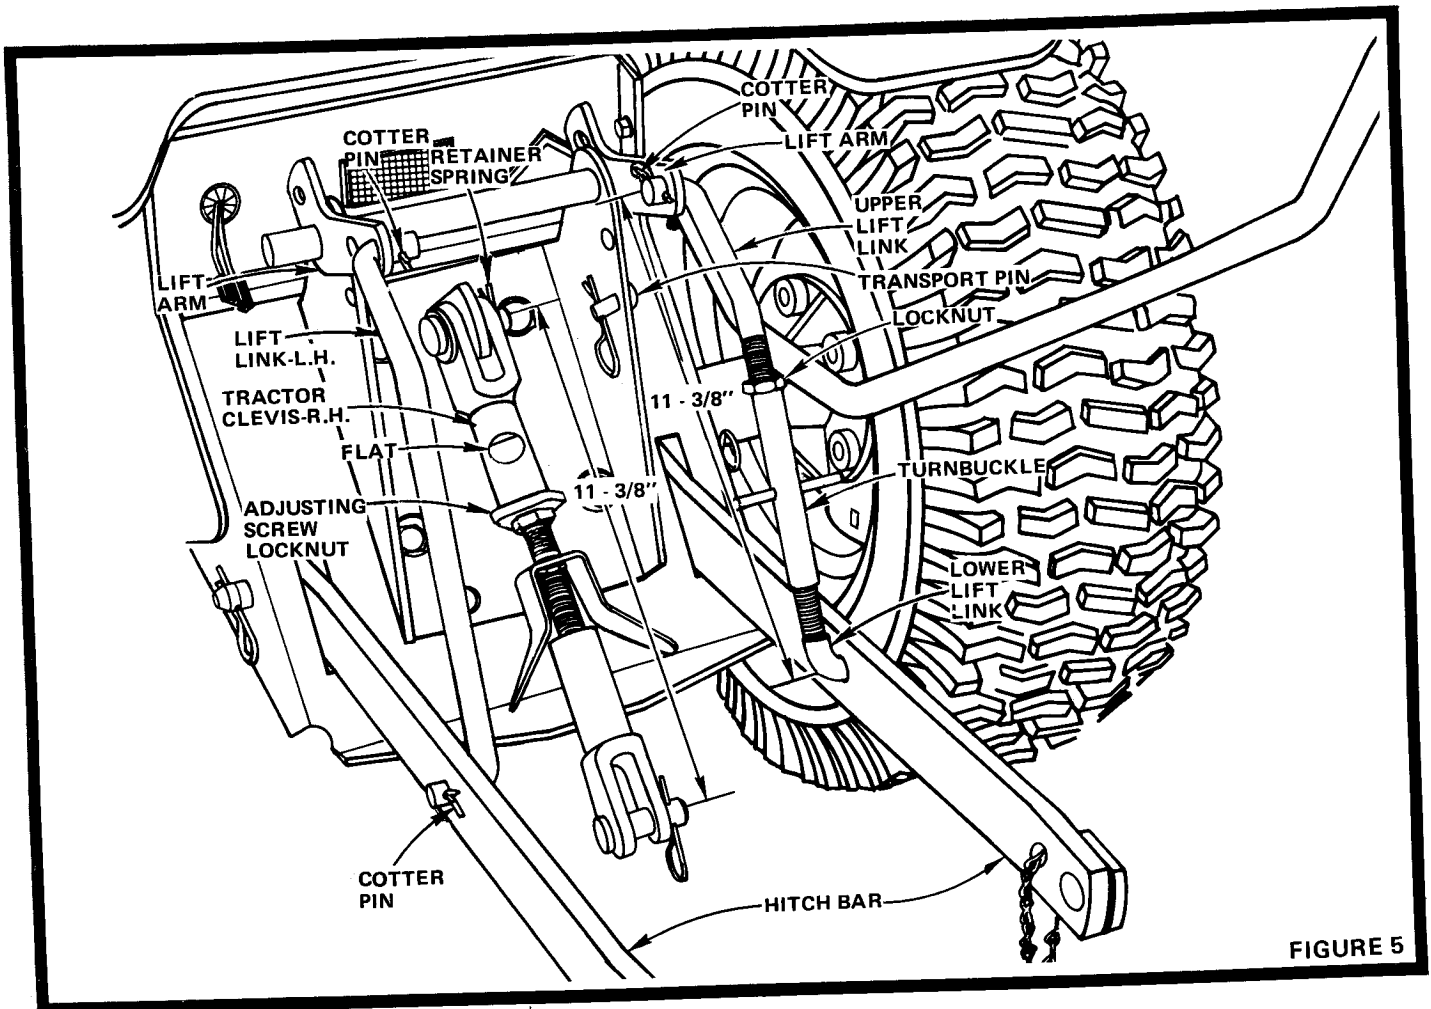

FIGURE 5
- a. Assemble Lift Link-L.H. to Lift Arm. Position with bend up and Link in outer hole of Lift Arm as shown in Fig. 5. Secure with Cotter Pin.
- a. The Right Hand Lift Link Assembly was adjusted at the factory to 11 - 3/8 inches center to center of Lift Link ends (Fig. 5). Check this dimension and adjust if necessary by loosening Locknut and adjusting Turnbuckle equally on Upper and Lower Lift Links. Tighten Locknut against Turnbuckle.
- a. Assemble Transport Pin in hole in R.H. side of Attaching Plate (Fig. 5).
1. Remove Retainer Spring and Transport Pin from storage position (Fig. 5).